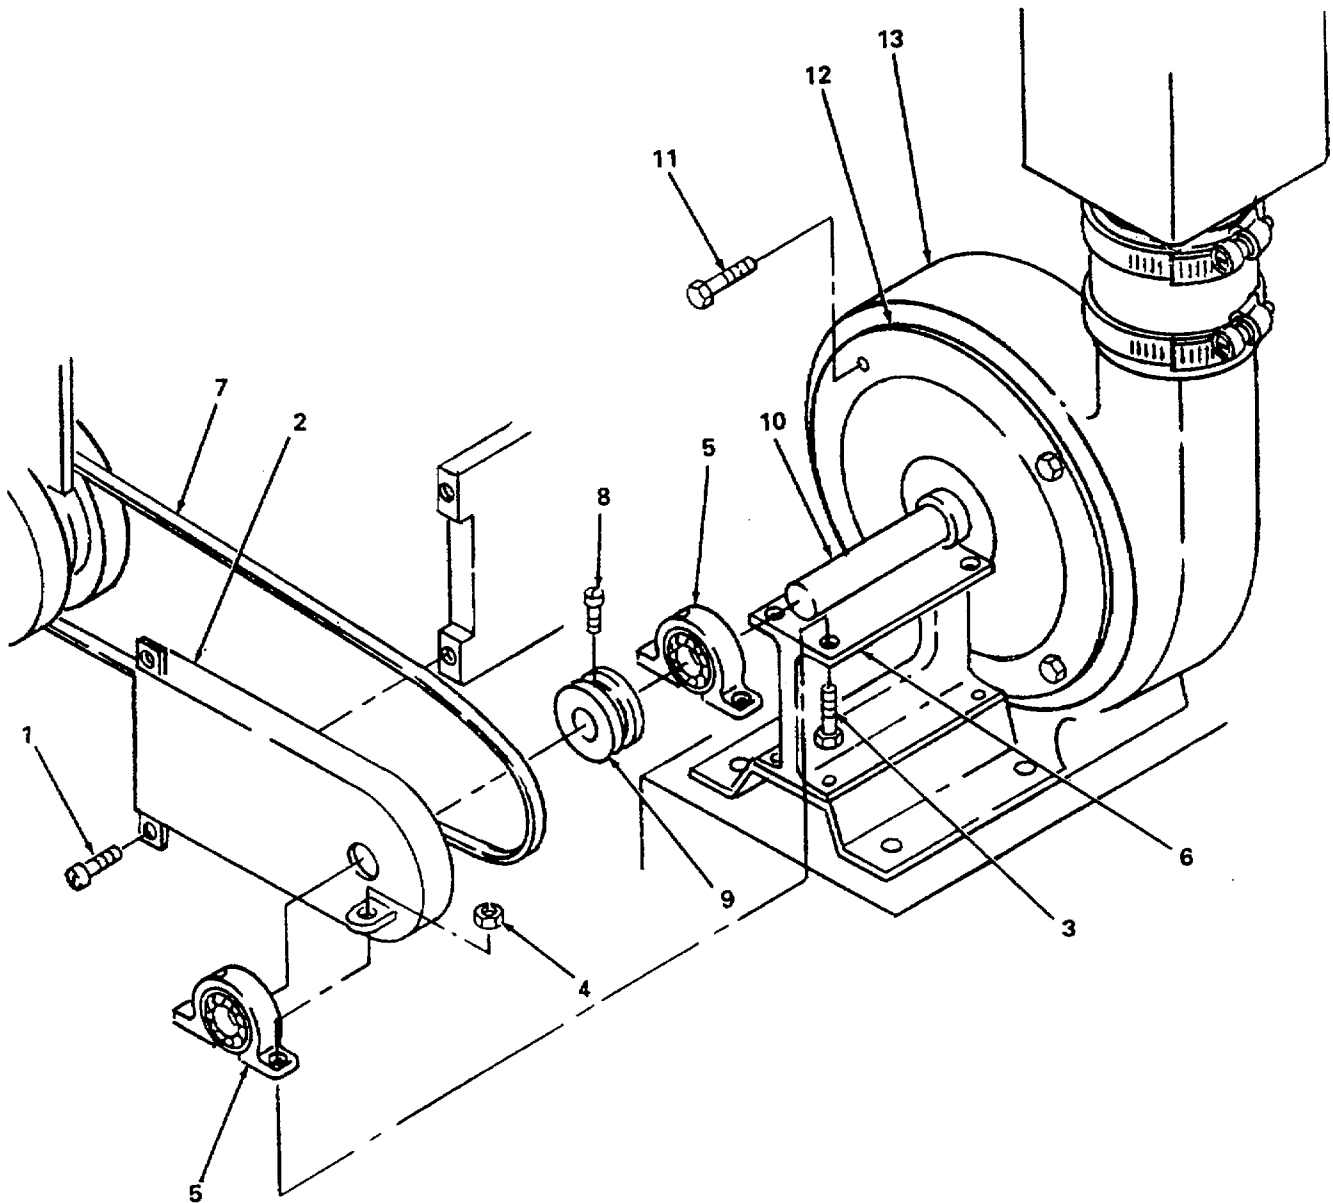

Figure 5-3. Exhaust Fan Replacement.
- (a) Remove two screws (1 figure 5-3) securing fan belt shroud (2).
- (b) Remove two screws (3) and two nuts (4) securing each support bearing (5) to pillow block (6).
- (c) Remove drive belt (7) from fan pulley.
- (d) Loosen screw (8) and remove fan pulley (9) from shaft (10).
- (a) Position fan and shaft (2)0, figure 5-3) inside duct (13.)
- (c) Install fan pulley (9) on shaft (10 and tighten screw (8).
- (d) Position fan belt shroud (2) and install, but do not tighten, two screws (3) and two nuts (4) through each support bearing (5) and pillow block (6).